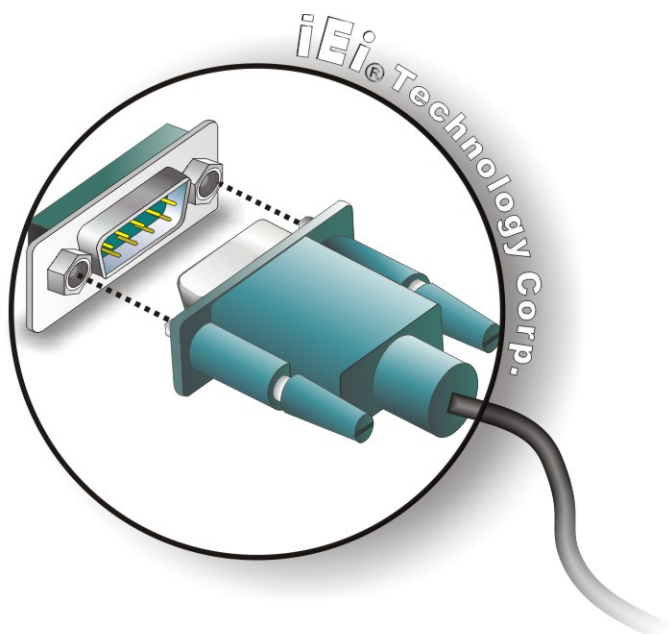

Figure 4-26: Serial Device Connector
Step 2: Insert the serial connector. Insert the DB-9 connector of a serial device into the DB-9 connector on the bottom panel. See Figure 4-26.